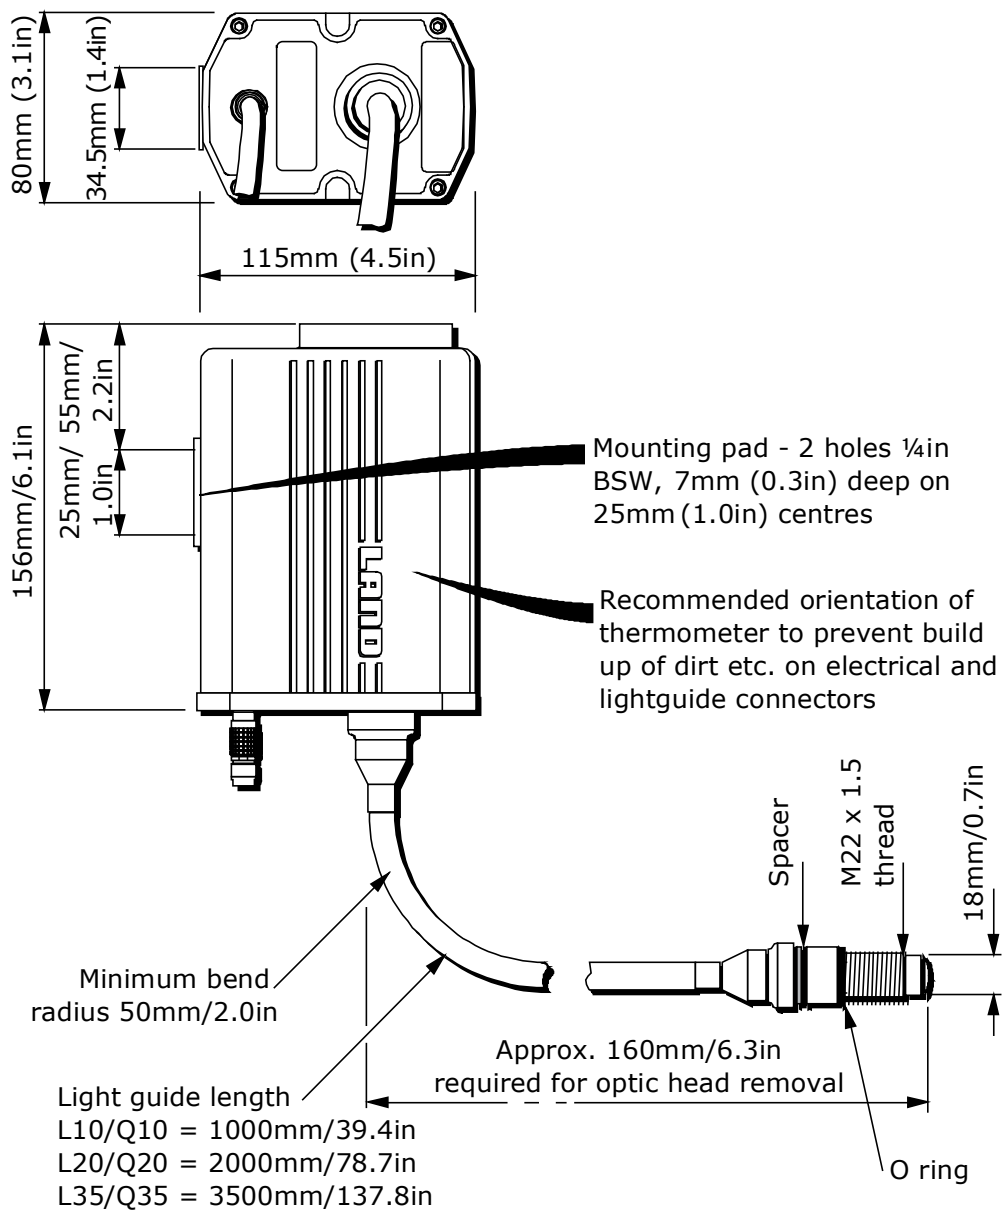

Fig. 3-1 System 4 Fiberoptic thermometer installation dimensions
- 5) It is important that, in order to prevent any possibility of water ingress into the electronics/detector module, the thermometer is mounted in the orientation shown in Fig. 3-1.
- 6) It is recommended that, in order to minimise the build-up of dirt etc. on the electrical and lightguide connectors, the thermometer is mounted such that these connectors are on the underside (as shown in Fig. 3-1).